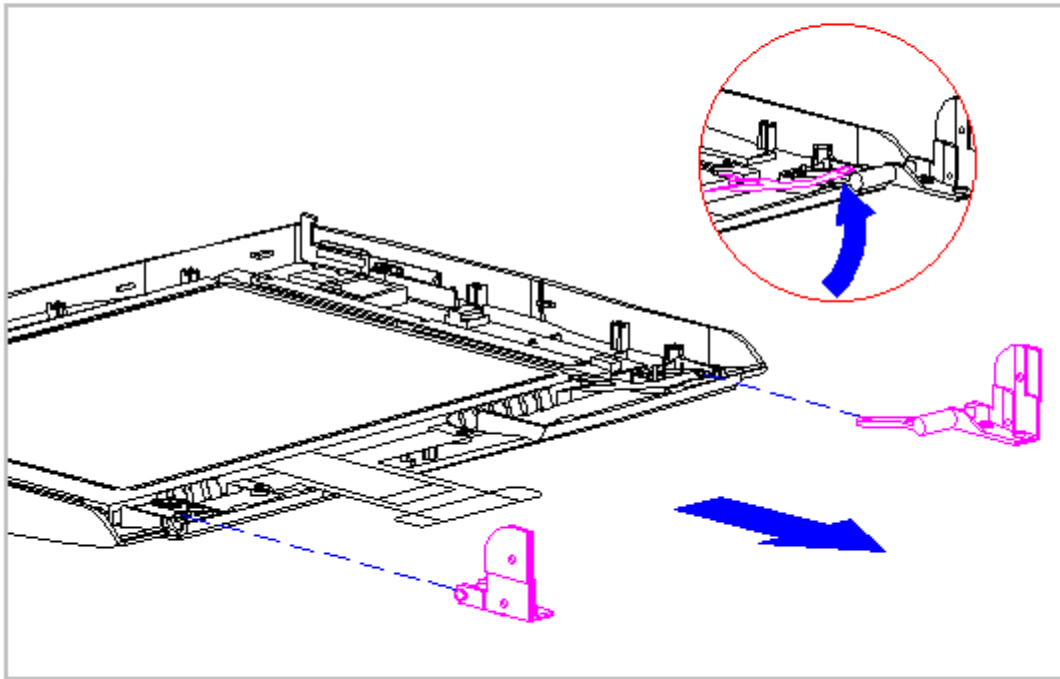

Figure 5-130. Removing the Clutches from Underneath the Display Shield
14. On either side of the display enclosure, slide the clutches from underneath the display shield tabs (Figure 5-130).